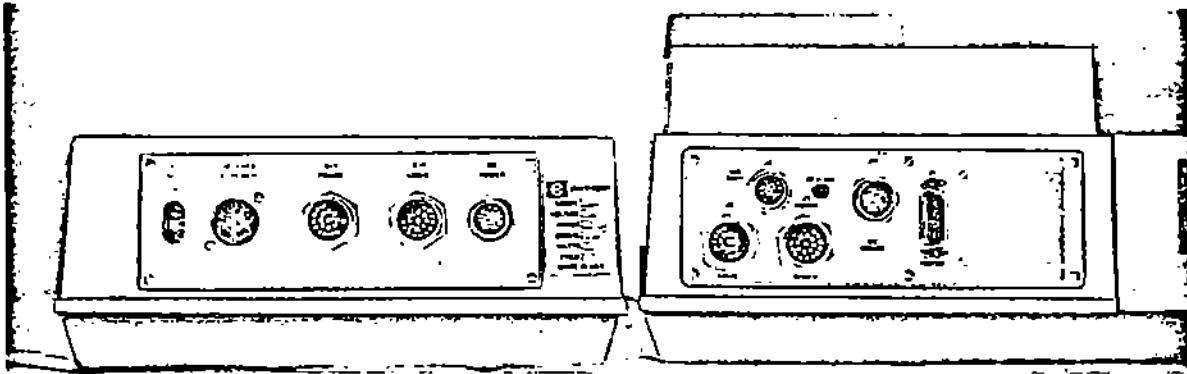
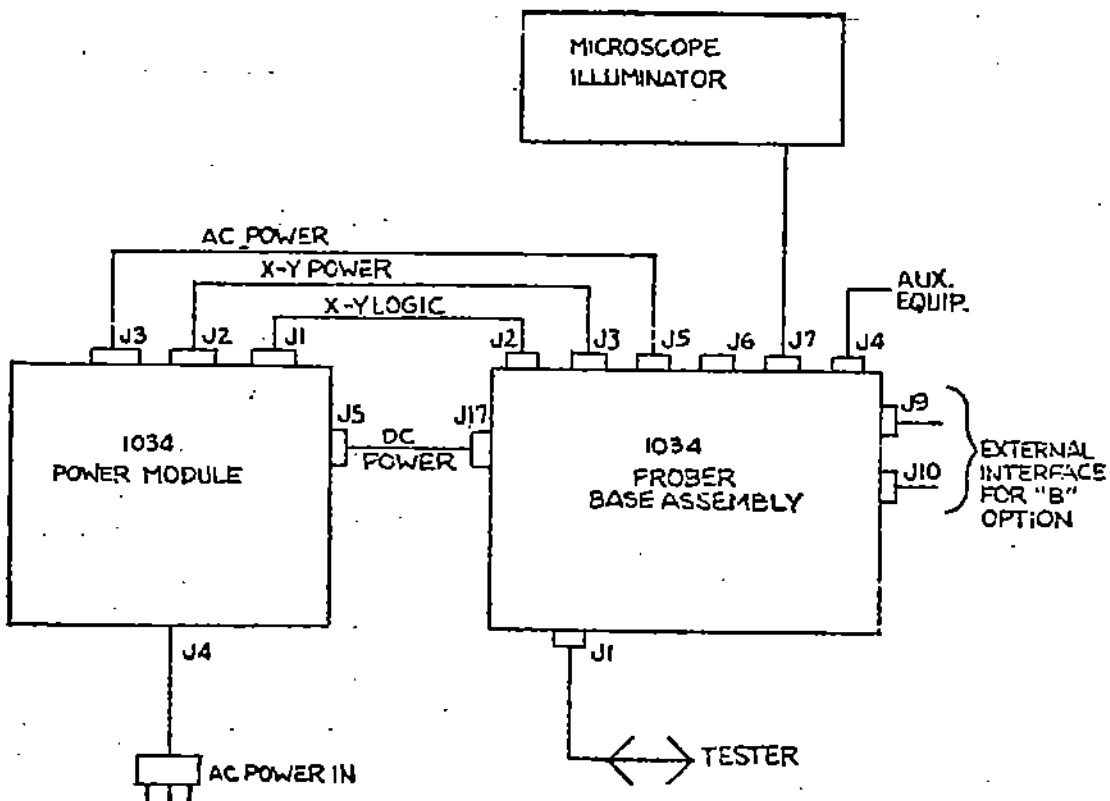

Figure 2-2. Rear Connectors
Figure 2-3. Interconnection Diagram
Connector panels are located at the back of both the power module and the prober module on the 1034X Prober. (Figure 2-2). Figure 2-3 illustrates the interconnections between the prober module, the power module, the power supply, the external tester, and the auxiliary equipment.
Connecting cables should be installed at the appropriate connection points on the rear panels and should be connected and disconnected several times to insure a clean contact. Table 2-1 identifies the connector pins and indicates their functions. (Figure 2-3).
4. Connect AC Power Input Cable to Power Module Rear Panel Assembly (Connector J4), and connect AC plug at other end to specified AC power outlet (Figure 2-3; Table 2-1).